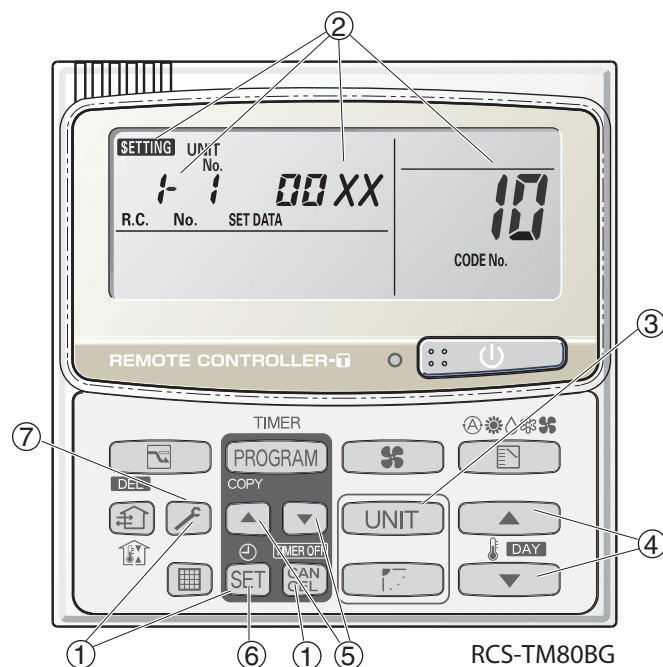

Fig. 2
- "**SETTING**," unit No. "**1-1**" (or "**ALL**" in the case of group control), item code "**10**," and settings data "**00XX**" are displayed blinking on the remote controller LCD display (Fig. 2).